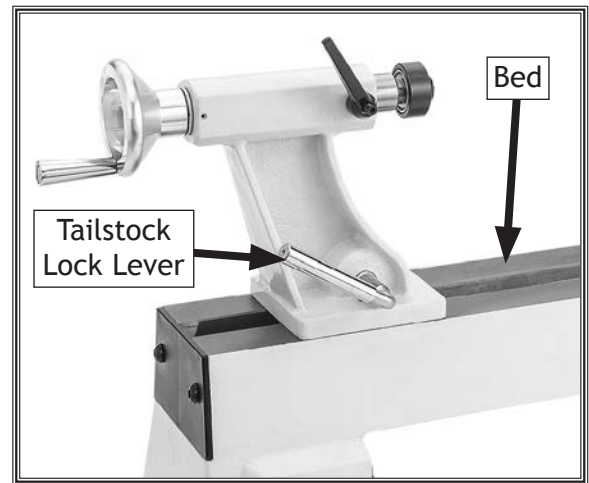

Figure 13. Location of tailstock lock lever.
1. Loosen tailstock lock lever and move tailstock to desired position along bed, as shown in **Figure 13**.